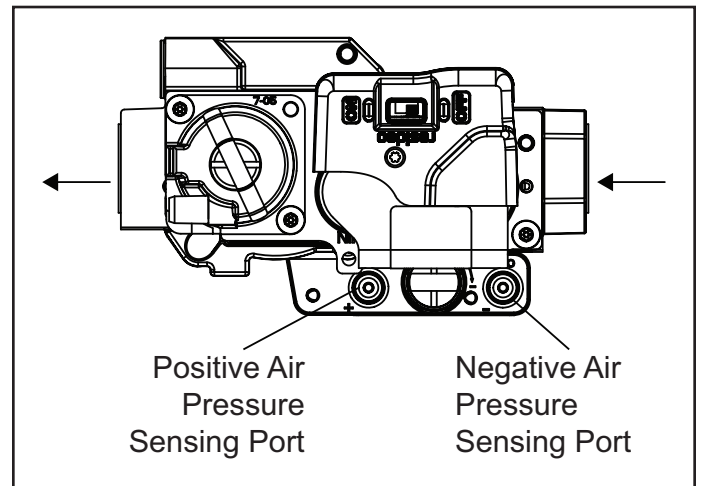

Figure 7. Gas Valve
3. Slide the gas valve switch to the "ON" position (see Figure 7).
2. Slide the gas valve switch to the "OFF" position (see Figure 7).
- a. Slide the gas valve switch to the "OFF" position (see Figure 7).